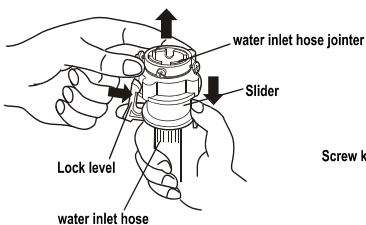
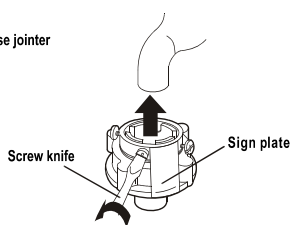
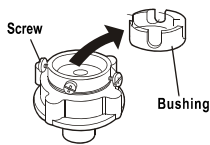

Figure 1
Figure 2
Figure 3
2. Put down the drain hose. Take off the drain hose frame as indicated in Figure 1. Take the drain hose into the cabinet, then nip the drain fixing clamp to make it deviated from the clip, the other hand is used to put down the drain bushing, as indicated in Figure 2,3.
1.Press the lower end of the lock lever and push down the slider. Take off the water inlet hose jointer from the water inlet hose component. See to Figure 1.
2. Loosen the screw till the water faucet can be accessed. Put the jointer of the water inlet hose on the faucet. See to Figure 2. (If the faucet is too large and the jointer can not be set on the water faucet, please loosen the four screws and take out the bushing in the jointer. The front end of the faucet must be smooth, otherwise it may leak water. See to Figure 3.)